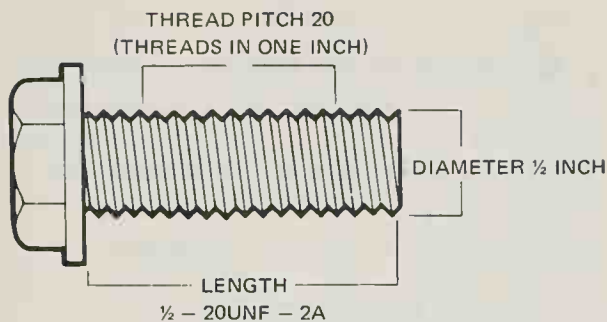

Figure 5-13. An English-system $\frac{1}{2}$ 20 UNF bolt. (Ford Motor Co.)
The size of a threaded English system fastener is designated in the same way as that of a metric system fastener. The many different sizes of bolts, screws, studs, and nuts are given in fractions of an inch. A typical designation is $\frac{1}{2}$ -20 UNF (Figure 5-13). The $\frac{1}{2}$ represents a bolt, screw, or stud thread diameter of $\frac{1}{2}$ inch; when applied to a nut, it refers to the size of the bolt that the nut fits. The 20 refers to the number of threads in every inch of length, and the UNF denotes Unified National Fine threads. All $\frac{1}{2}$ -inch Unified National Fine fasteners have the same number of threads (20) per inch. A Unified National Coarse thread fastener that is $\frac{1}{2}$ inch in diameter would be designated $\frac{1}{2}$ -13 UNC. It would have only 13 threads per inch.